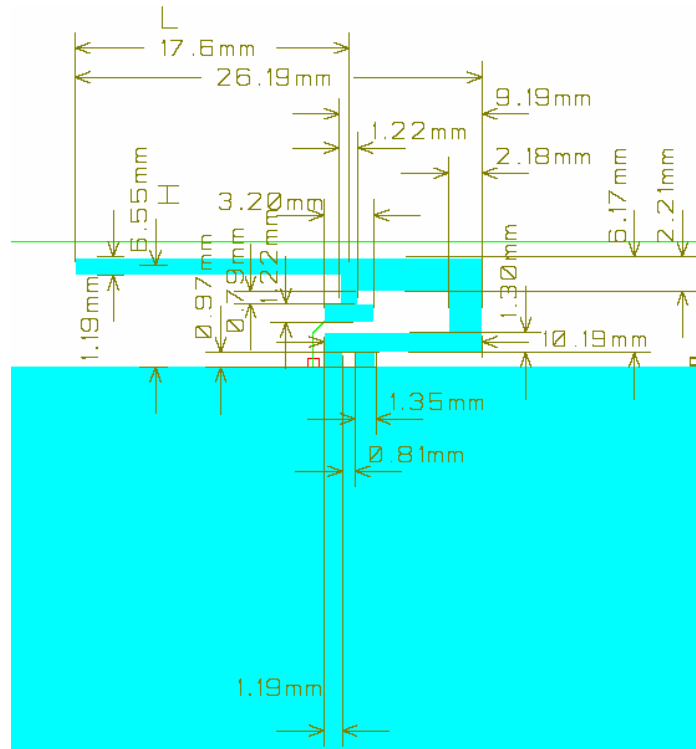

Figure 2: Antenna dimensions
The PCB antenna is a so-called Inverted-F type. The Inverted-F antenna is a wire monopole where the top section is folded down to be parallel with the ground plane. By folding the antenna down you will reduce the height and maintain a resonant wire length. A capacitance will be introduced to the input impedance of the antenna due to the parallel section. However, as a rule of thumb design guide, the length + height (L+H) will be approximately equal to a quarter wavelength ($\lambda/4$). A reduction of the antenna height (H) will in general decrease the antenna bandwidth. Please see Figure 2 for the antenna dimensions.